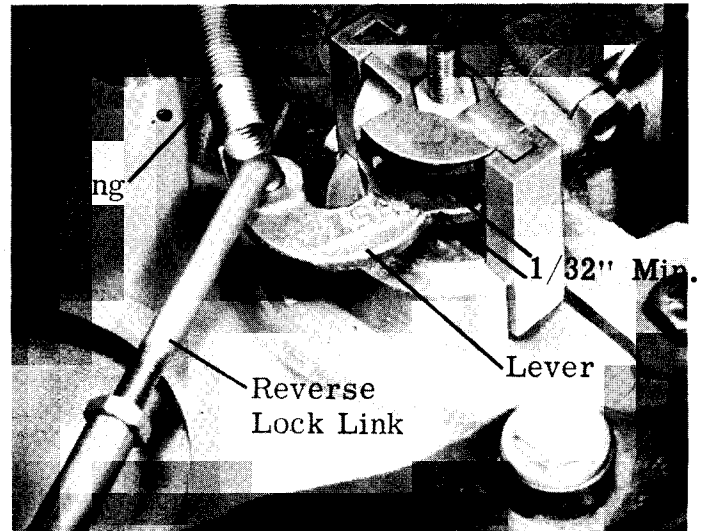

Figure 10. Reverse Cam Adjustment
1. Before placing engine in test tank, adjust reverse cam (if necessary) by actuating self-locking nut on inside bottom cowl underneath lower carburetor. (Figure 10) Adjustment of this nut secures reverse locking assembly over the tilt pin.
2. (Bottom cowl lever is positioned to give 600-to-800 RPM in reverse.) (Figure 10) This will prevent engine from kicking up in case of improper initial adjustment.